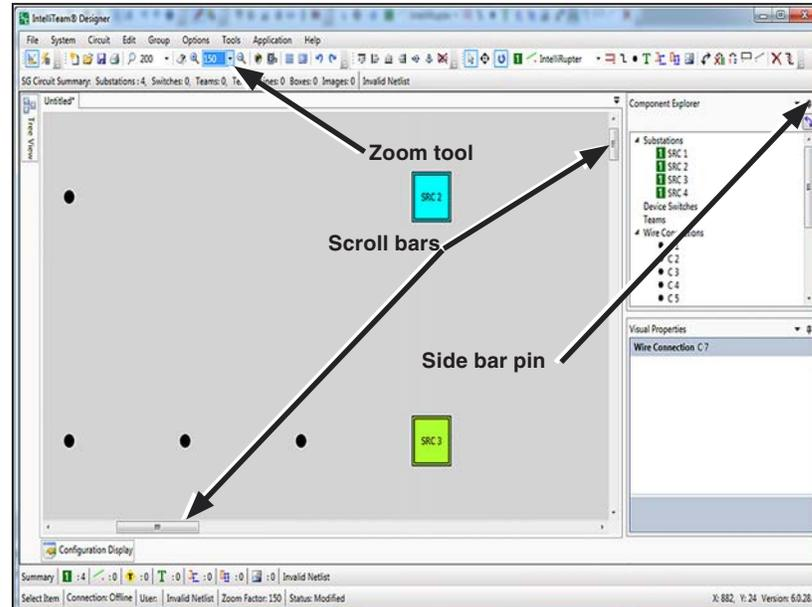

Figure 42. Zoom in to make the wire connection process easier.
**STEP 1.** Click the side bar pin to open the Component Explorer dialog box if it is not already open. Set the zoom to 150%. Use the scroll bars to position SRC 2, as shown in Figure 42.